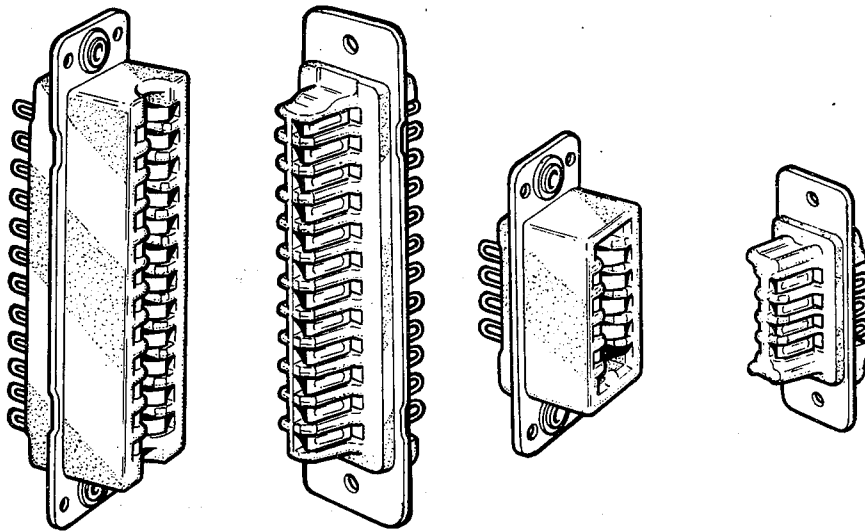

Fig. 1. Barrier polarization type without shells
2. A typical mating pair is illustrated at fig. 1. Connection to the contacts is made by soldering. Inter-contact moulded barriers are of differing heights to prevent incorrect mating. Male contacts are manufactured from a 'ribbon' of half hard copper, and female contacts from phosphor